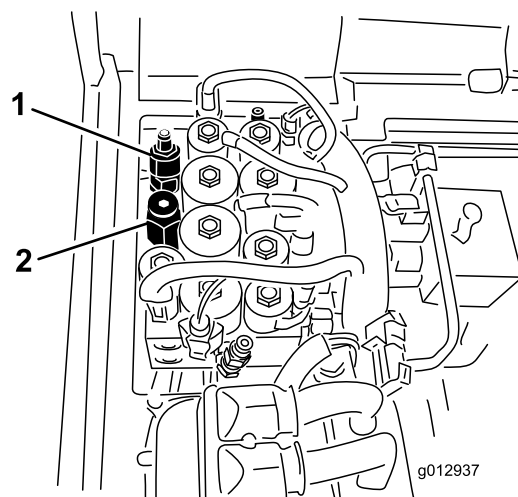

Figure 18
2. Loosen the locknut on the counterbalance adjusting screw (Figure 18)
3. Remove the cap from the top of the lift pressure adjusting valve (Figure 18).